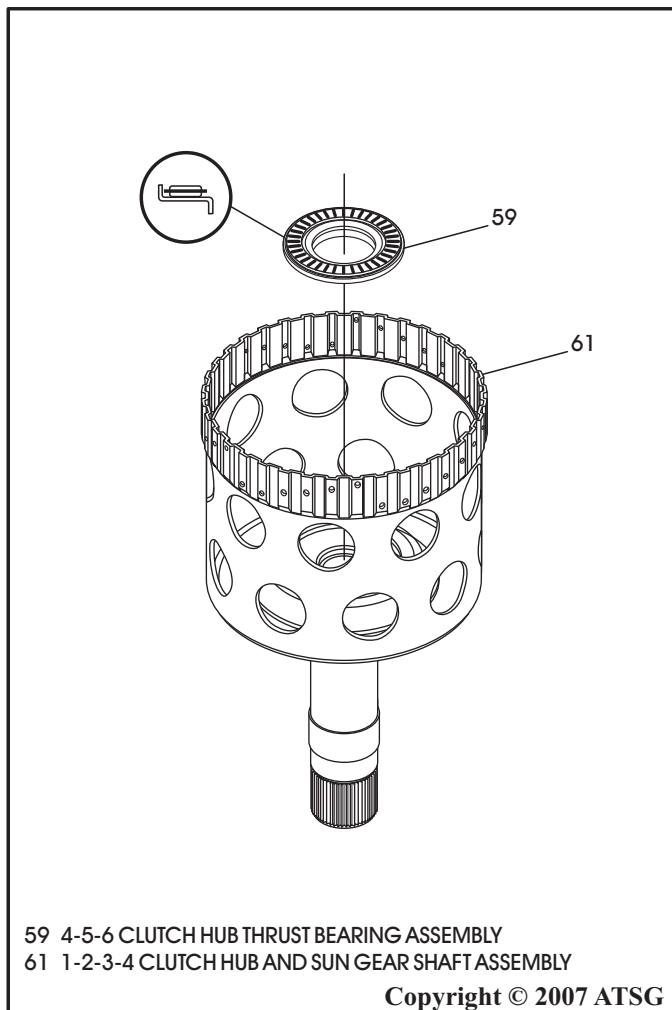

Figure 120
3. Install the 4-5-6 clutch hub thrust bearing, as shown in Figure 120, and retain with a small amount of Trans-Jel®.